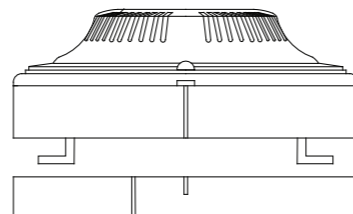

Figure 4. Alignment of detector head and its base
- (1) Align the position of head to the base, see Figure 4.
- (2) Screw the detector head into the base in clockwise direction.